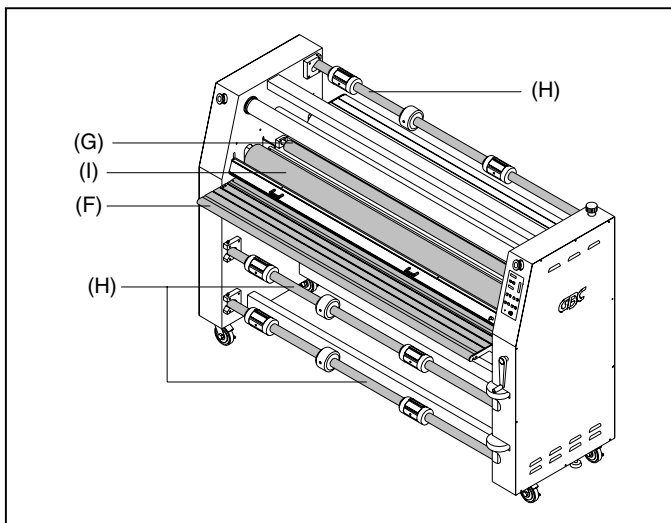

Fig. 12
F. FEED TABLE: (Figure 12) The Feed Table is used to position items for lamination. To pivot the feed table, remove the safety shield, lift up on the feed table, pull back, then carefully lower. **The laminator will operate only when the Feed Table is properly installed.**
G. CHILL IDLER: (Figure 12) Assist in the cooling process of the web material as it exits the heat rollers.
H. FILM SHAFT: (Figure 12) The film shaft holds the film supply on the machine.
I. MAIN ROLLERS: (Figure 12) Silicone rubber coated steel tubes heat the laminating film and compress the heated film to the items being laminated. Heat is provided by an internal heating element. The heat rollers are motor driven for ease of loading new film.